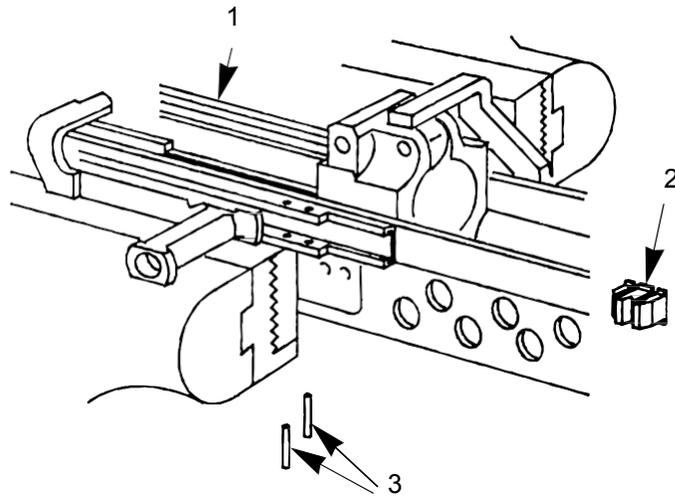

Figure 20. Removal of Spring Pins, Cocking Handle Stop.
1. Drive out two spring pins (Figure 20, Item 3) while supporting lower rail of receiver assembly (Figure 20, Item 1). Discard spring pins.
2. Remove cocking handle stop (Figure 20, Item 2) from receiver assembly (Figure 20 Item 1).
1. Visually inspect cocking handle stop (Figure 20, Item 2) for cracks or damage, and replace if damaged.